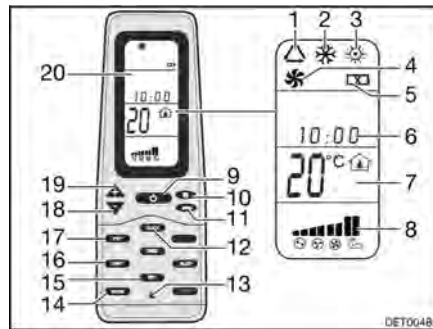

Fig. 125 Remote control
- Press the ON/OFF button (Fig. 125,9).
- Press the "Mode" button (Fig. 125,11) as often as required until the required mode (Fig. 125,1, 2, 3 or 4) is indicated on the display (Fig. 125,20).
- Use the "+" (Fig. 125,19) and "-" (Fig. 125,18) buttons to set the desired temperature.
- Use the fan speed button (Fig. 125,10) to select the desired fan level.